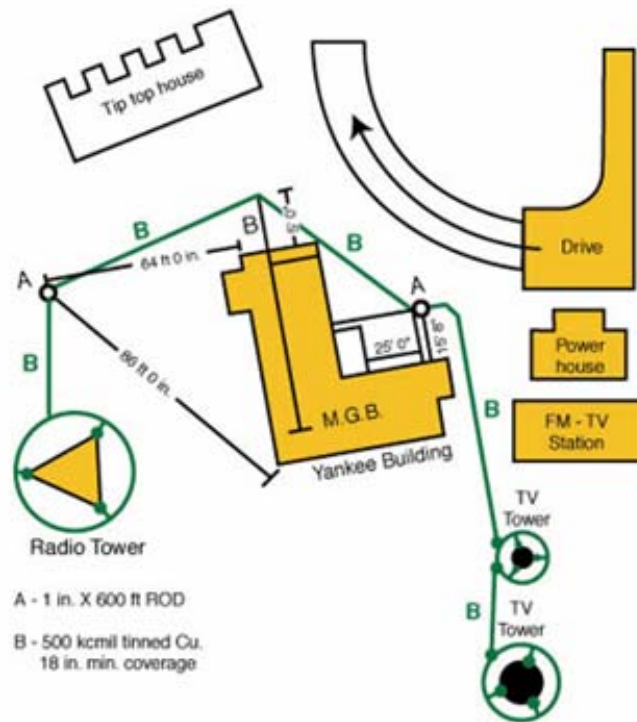

Figure 2. Sketch of site layout showing added electrodes. Each tower was surrounded by a 500 kcmil ring ground, exothermically welded to each leg.
Figure 2 shows the location of the two added electrodes (A), and their connection to the station master ground bus (M.G.B.). A 500 kcmil copper ring ground was installed around each tower and exothermically welded to each tower leg, then connected to the electrodes as shown. The master ground bus is a copper plate where the grounding electrodes of all the structures are electrically connected.